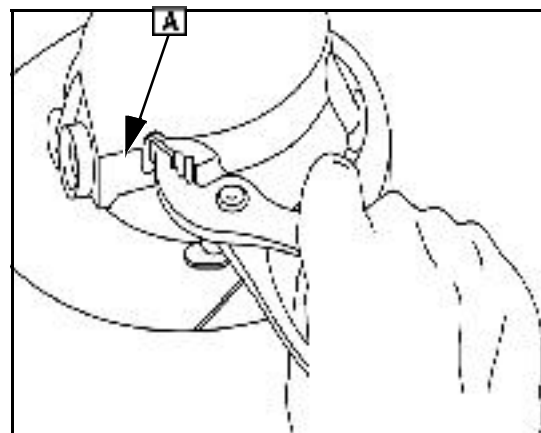

Fig. 28
2. Grasp outer end of rewind spring ([A] Fig. 28) with pliers. Pull out of housing as far as possible.